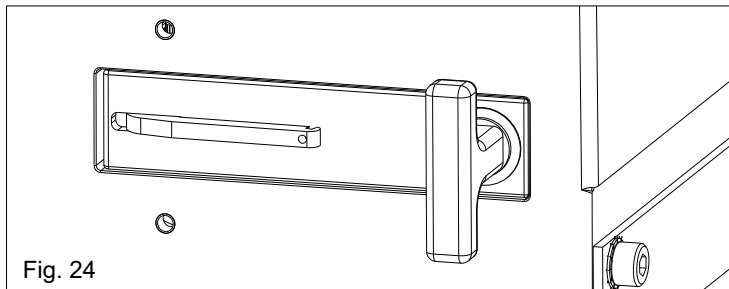

Fig. 24
- Push the release lever to complete closing (Fig.24).